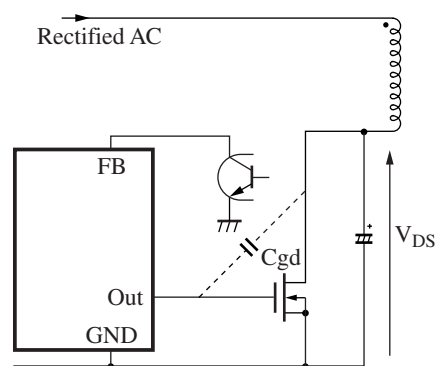

Figure 9
However, the amplitude of the chattering is larger for higher input voltages and for larger leakage inductance in the transformer used. Also, the influence of this phenomenon becomes more noticeable for the larger  $C_{gd}$  of the power MOSFET used, and the  $V_{ex}$  peak value also increases. If the parasitic device conduction voltage is exceeded, then, in this IC, the parts of the circuit around the feedback circuit (FB) (in particular, the FB discharge circuit) are influenced. This can cause momentary drops in the FB pin voltage (the control voltage), and as a result increase the FB current  $I_{FB}$  and thus does not allow the drive pulse on-period  $T_{ON}$  to be increased. It may also prevent stabilization of the circuit. These are symptoms of the case described here. (Refer to figures 9 and 10.)